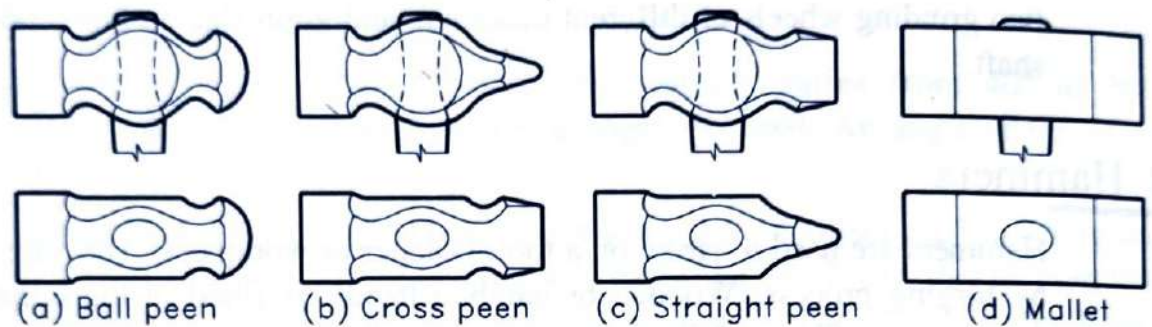

FIGURE 3.11
1. Ball peen hand hammer: This is the most common form of hammer used for fitting works [Figure 3.11(a)]. The peen has the shape of a ball and the other end called face has cylindrical shape. The weight of the hammer varies from 0.11 to 0.91 kg. A ball peen hammer is used for hammering during the operations like chipping, riveting, nailing, etc.
hammer is used for bending, straightening, hammering inside curves, etc. The size varies from 0.22 to 0.91 kg [Figure 3.11(b)].
3. Straight peen hand hammer: This hammer is similar to the cross peen type. The peen is positioned parallel to the axis of the eye hole. The use of the hammer is similar to that of cross peen type. The size of hammer varies from 0.11 to 0.91 kg [Figure 3.11(c)].
4. Soft hammer (mallet): For giving soft blows which cannot damage the machined surfaces, soft hammers or mallets are used. The material used may be lead, copper, brass, plastic, hard rubber or wood. Wooden mallets of this type are widely used for sheet metal work [Figure 3.11(d)].